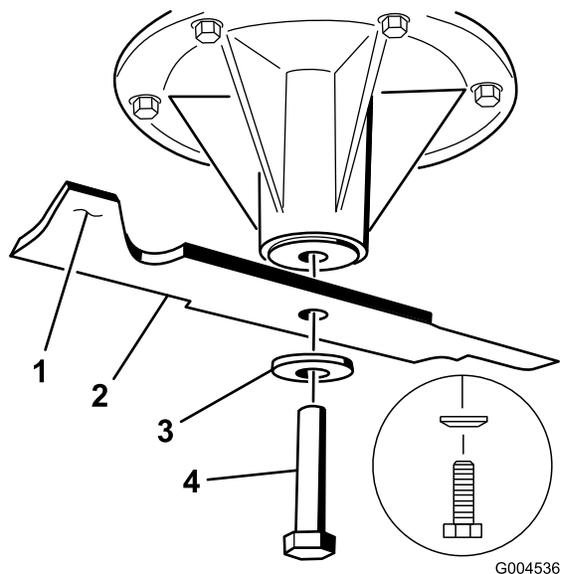

Figure 81
1. Install the blade onto the spindle shaft (Figure 81).
2. Install the spring disk and blade bolt (Figure 81).
Note: The spring-disk cone must be installed toward the bolt head (Figure 81).